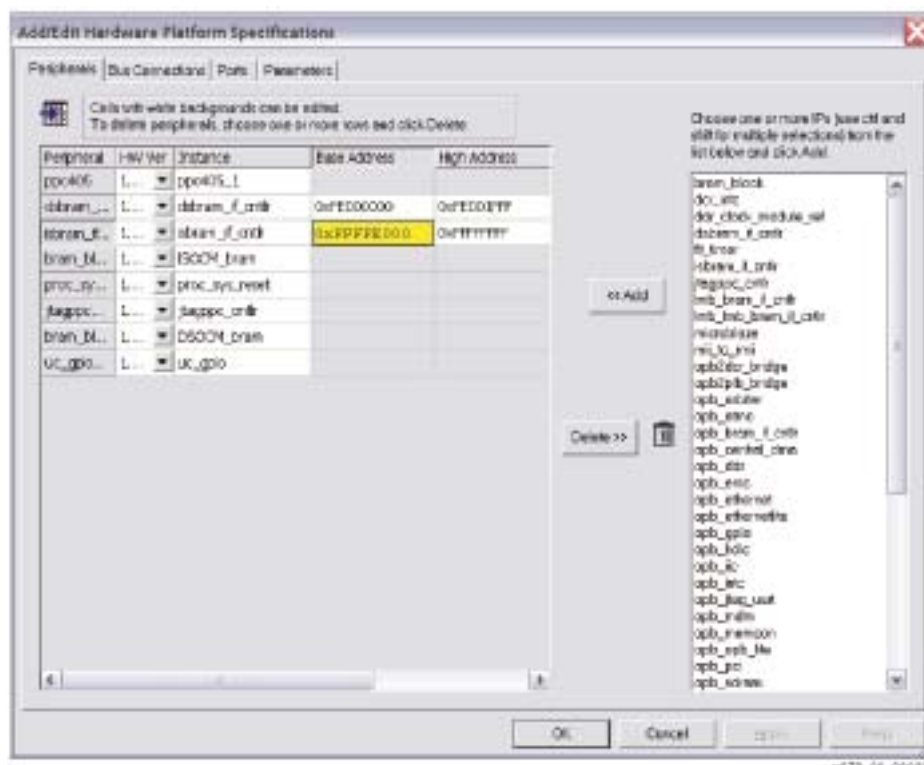

Figure 8: Instruction-Side Memory Address
2. Change the hardware memory starting address (*isbram*) under Project / Add/ Edit Cores. The screen capture in Figure 8 illustrates the dialog. The current address is 0xFFFFE000.